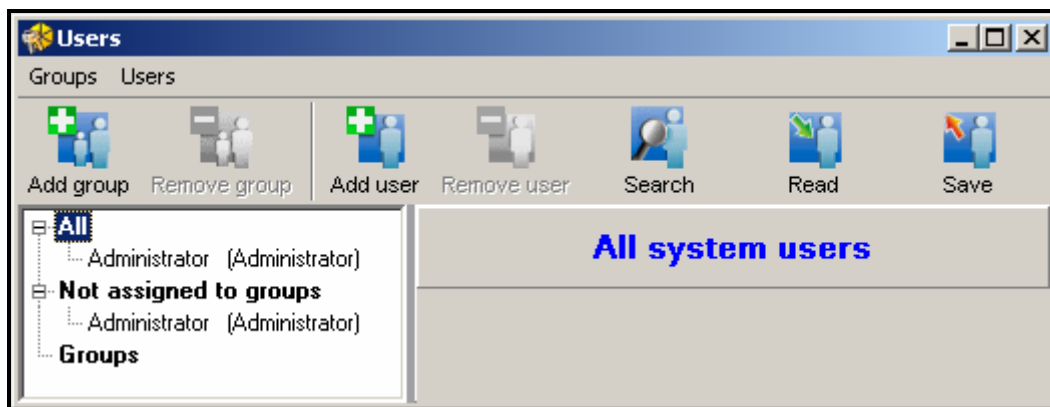

Fig. 21. View of the USERS window before adding the users.
1. Click with your mouse cursor on the icon designated USERS, which is available on the program menu bar (see Fig. 19). The USERS window will be displayed (see Fig. 21).
18. End the procedure of user adding by clicking on the SAVE icon (see Fig. 21).
1. Click with your mouse on the icon designated USERS, available on the program menu bar (see Fig. 19). The USERS window will open (see Fig. 21).